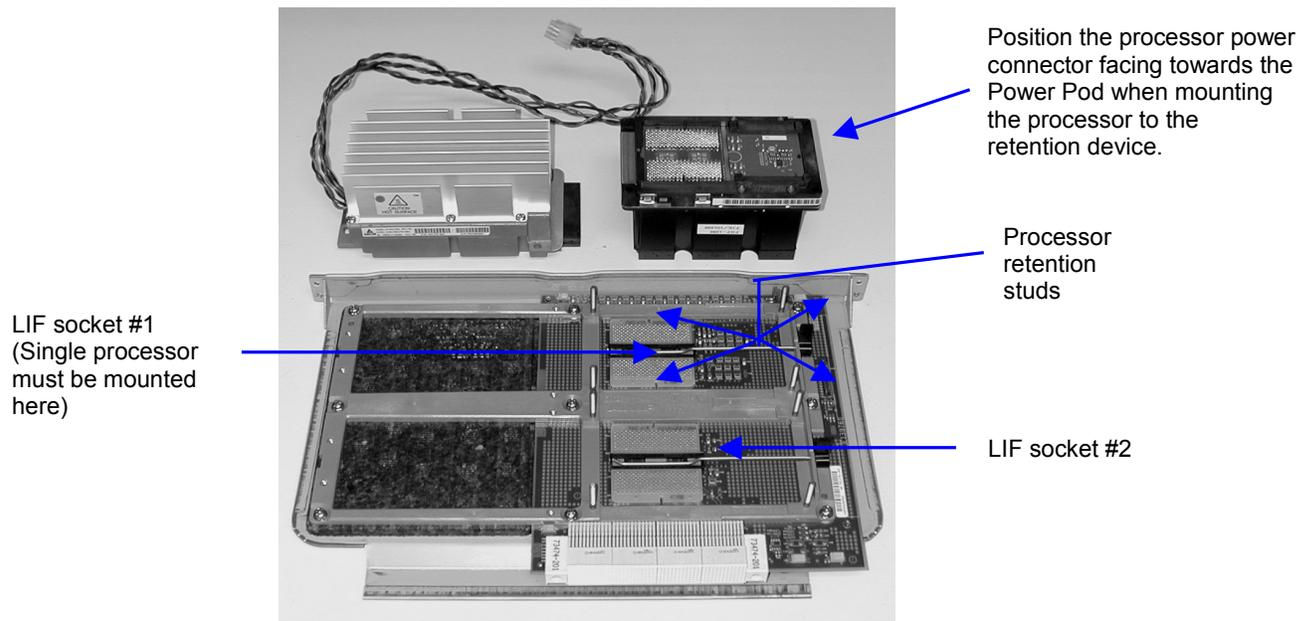

Figure 10. Replacing the Processor
1. Position the replacement processor over the four- (4) processor retention studs.
2. Gently lower into place onto the LIF socket #1. Refer to Figure 10